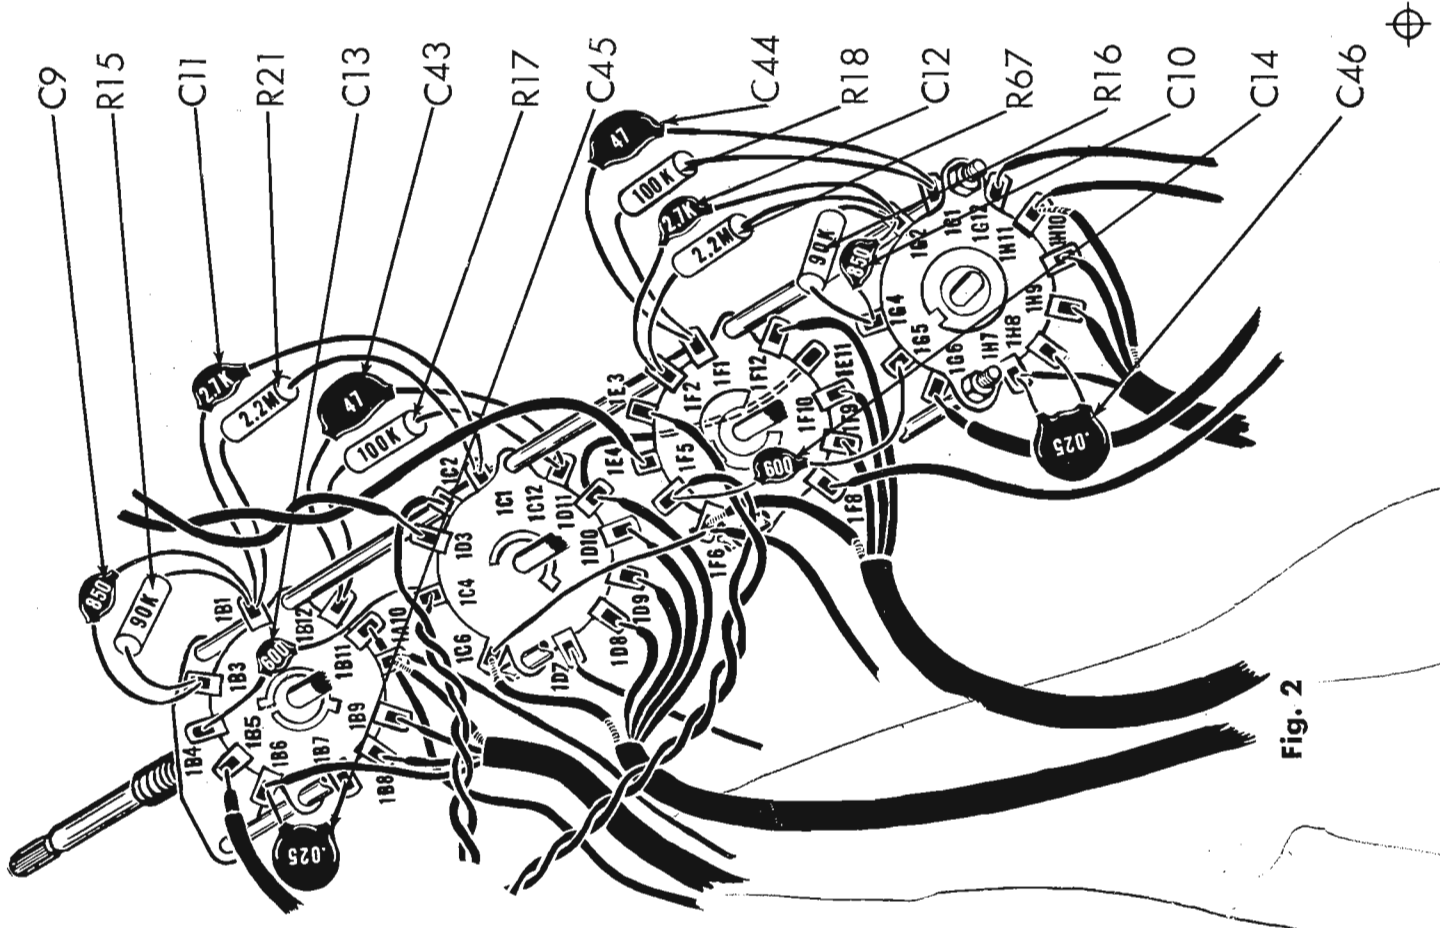

Fig. 2
1. (✓) Fig. 2. Cut all leads on two .025 mfd (25K or 25,000 mmf) disc capacitors, C45 and C46, to 3/4". Cover each lead with a 1/2" piece of spaghetti. Connect C45 from S1B-6 (C) to S1B-7 (S1). Connect C46 from S1H-7 (C) to S1H-8 (S1).
2. (✓) Fig. 2. Cut all leads on two 90KΩ (white, black, orange, gold) 5% resistors, R15 and R16, to 1/2". Connect R15 from S1B-3 (C) to S1B-1 (C). Connect R16 from S1G-2 (C) to S1G-4 (C).
3. (✓) Fig. 2. Cut all leads on two 850 mmf disc capacitors, C9 and C10, to 3/4". Connect C9 from S1B-3 (S2) to S1B-1 (C). Connect C10 from S1G-2 (C) to S1G-4 (S2).
4. (✓) Fig. 2. Cut all leads on two 2.2MΩ (red, red, green, gold) 5% resistors, R21 and R67, to 1/2". Connect R21 from S1B-1 (C) to S1C-1 (C). Connect R67 from S1F-2 (C) to S1G-2 (C).
5. (✓) Fig. 2. Cut all leads on two .0027 mfd (2.7K or 2700 mmf) disc capacitors, C11 and C12, to 1/2". Cover each lead with a 1/4" piece of spaghetti. Connect C11 from S1B-1 (S4) to S1C-1 (S2). Connect C12 from S1F-2 (S2) to S1G-2 (S4).
6. (✓) Fig. 2. Cut all leads on two 100KΩ (brown, black, yellow, gold) 5% resistors, R17 and R18, to 1/2". Connect R17 from S1B-12 (C) to S1C-12 (C). Connect R18 from S1F-1 (C) to S1G-1 (C).
7. (✓) Fig. 2. Cut all leads on two 47 mmf disc capacitors, C43 and C44, to 3/4". Connect C43 from S1B-12 (S2) to S1C-12 (S2). Connect C44 from S1F-1 (S2) to S1G-1 (S2).
8. (✓) Fig. 2. Cut all leads on two 600 mmf disc capacitors, C13 and C14, to 3/4". Connect C13 from S1B-4 (S1) to S1C-4 (C). Connect C14 from S1G-5 (S1) to S1F-5 (C).
9. (✓) Fig. 2. Strip back the outer insulation 1 1/2" from one end of a 10" piece of 3 conductor shielded cable. Twist the shield strands together and cover with a 1 1/4" piece of thick spaghetti. Cut the brown lead to 1 1/4", the red lead to 3/4" and the orange lead to 1". Strip back the insulation 1/4" from the end of each of these leads. Connect the brown lead to S1B-6 (S2), the red lead to S1B-8 (S1), the orange lead to S1B-9 (S1) and the twisted shield strands to S1A-10 (C). On the other end of the same piece of shielded cable, strip the outer insulation back 3/4". Twist the shield strands together. Strip back the insulation 1/4" from the end of each of the inner conductors. This end of the cable does not get connected until later.
10. (✓) Fig. 2. Connect one end of a 3 1/2" piece of black wire to S1A-10 (S2).
11. (✓) Fig. 2. Strip back the outer insulation 1 3/4" from one end of a 10" piece of the 4 conductor shielded cable. Twist the shield strands together and cover with a 1 1/2" piece of thick spaghetti. Cut the brown, red and orange leads to 3/4" each and the yellow lead to 1 1/4". Strip back the insulation 1/4" from the end of each of these leads. Connect the brown lead to SID-8 (S1), the red lead to SID-9 (S1), the orange lead to SID-10 (S1) and the yellow lead to SID-11 (C). Connect a 1" piece of bare wire from SID-11 (S2) to S1E-11 (S1). Connect the twisted shield strands to SIC-6 (C). On the other end of the same piece of shield cable, strip the outer insulation back 1 1/4". Twist the shield strands. Cut the red, orange, and yellow leads to 1". Cut the shield strands to 3/4". Strip back the insulation 1/4" from the end of each of the inner conductors. This end of the cable does not get connected until later.
12. (✓) Fig. 2. Strip back the insulation 1 3/4" from one end of a 9 1/2" piece of 3 conductor shield cable. Twist the shield strands together and cover with a 1 1/2" piece of thick spaghetti. Cut the brown and red leads to 3/4" and the orange lead to 1". Strip back the insulation 1/4" from the end of each of these leads. Connect the orange lead to S1F-12 (S1), the red lead to S1F-10 (S1), the brown lead to S1F-9 (S1) and the twisted shield strands to S1F-6 (C). On the other end of the same piece of shielded cable, strip the outer insulation back 1 1/4". Twist the shield strands. Cut the shield strands, red lead and orange lead to 3/4" and the brown lead to 1". Strip back the insulation 1/4" from the end of each of the inner conductors. This end of the cable does not get connected until later.
13. (✓) Fig. 2. Connect one end of a 4 1/2" piece of black wire to S1F-6 (C).
14. (✓) Fig. 2. Connect a 1 1/2" piece of bare wire from SIC-6 (S2) to S1F-6 (S3).
15. (✓) Fig. 2. Strip back the outer insulation 1 1/4" from one end of a 7 1/2" piece of 3 conductor shield cable. Twist the shield strands together,
16. (✓) Fig. 2. Connect one end of a 2" piece of black wire to S1H-11 (S2).
17. (✓) Fig. 2. Connect one end of a 2 1/2" piece of grey wire to S1B-11 (S1).
18. (✓) Fig. 2. On one end of a 4 1/2" piece of single conductor shielded cable, strip the outer insulating back 1/2". Twist the shield strands together and cut off. Strip back the inner insulation 1/4" and connect to S1B-5 (S1). On the other end of the same piece of shielded cable, strip back the outer insulation 3/4". Twist the shield strands together. Strip back the inner insulation 1/4". This end of the cable does not get connected until later.
19. (✓) Fig. 2. Connect one end of a 5" piece of brown wire to SID-7 (S1).
20. (✓) Fig. 2. Connect one end of a 3" piece of brown wire to S1F-8 (S1).
21. (✓) Fig. 2. On one of a 4" piece of single conductor shielded cable, strip the outer insulated back 1/2". Twist the shield strands together and cut off. Strip back the inner insulation 1/4" and connect to SIG-6 (S1). On the other end of the same piece of cable, strip the outer insulation back 3/4". Twist the shield strands together. Strip back the inner insulation 1/4". This end of the cable does not get connected until later.
22. (✓) Fig. 2. Connect one end of a 3" piece of grey wire to SIG-12 (S1).
23. (✓) Fig. 2. Connect one end of a 5" piece of grey wire to SID-3 (S1) and one end of a 5" piece of yellow wire to S1E-4 (S1). Twist the two leads together.
24. (✓) Fig. 2. Connect one end of a 4 1/2" piece of green wire to SIC-2 (S1) and one end of a 4 1/2" piece of blue wire to SIC-4 (S2). Twist the two leads together.
25. (✓) Fig. 2. Connect one end of a 5 1/2" piece of brown wire to S1E-3 (S1) and one end of a 5 1/2" piece of white wire to S1F-5 (S2). Twist the two leads together.